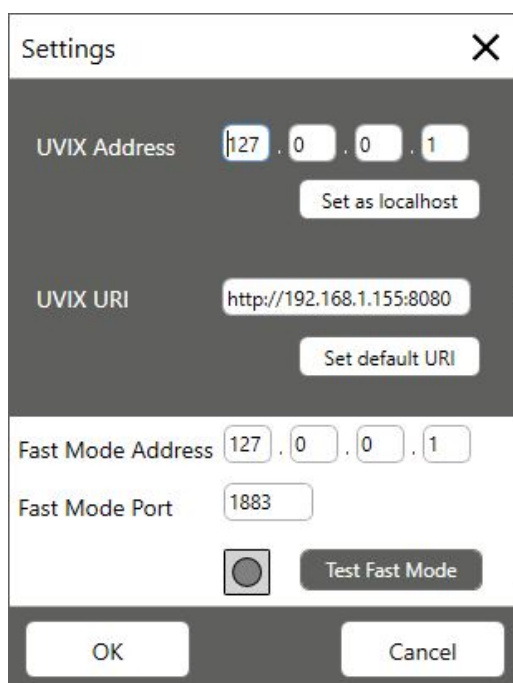

Figure 5.3: Settings
- Settings, as shown in Figure 5.3: to manage communication settings with other components.
- ❶ Start Gateway: starts up the USB Gateway, allowing data transmission between devices and other components.
- ❷ Stop Gateway: stops the USB Gateway, blocking data transmission between devices and other components.
- ❸ Open UVIX: opens the WebApp in the default browser. The address is configured in the "Settings" commands shown in Figure 5.3.